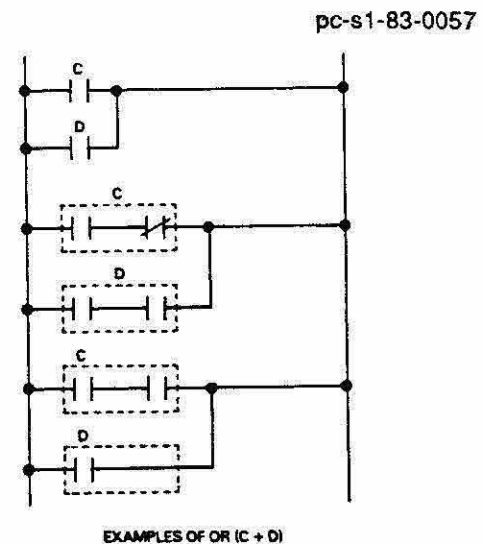

Figure 4-3. Parallel Logic (OR)
- OR** Places logic such as two contacts or two groups of contacts in parallel (see figure 4-3). Power flow can be possible through either (or both) elements before it will be passed to the next element.